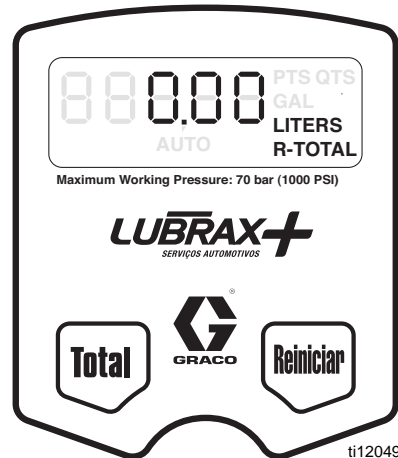

FIG. 17
- Press and hold Total button. The resettable total amount is displayed (FIG. 17).
If the unit of measurement is gallons, quarts, or pints, the resettable total is displayed in gallons, (FIG. 17). If the unit of measurement is liters, the resettable total is displayed in liters.